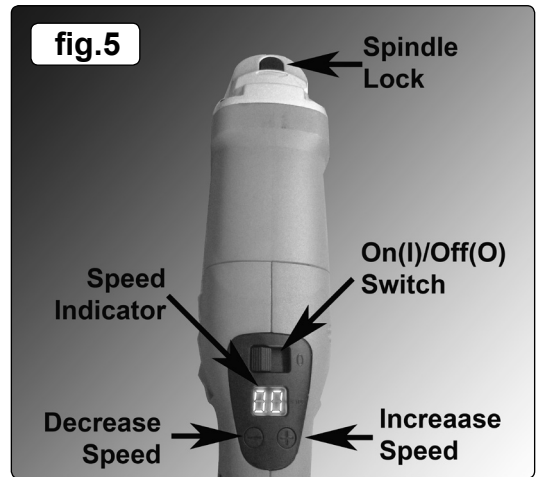

fig.5
- 4.3.1. With the machine disconnected from the electrical supply, depress the spindle lock button (fig.5). Turn the backing pad by hand until the spindle lock is felt to engage. Turn the backing pad clockwise (viewed from above) to release and remove.